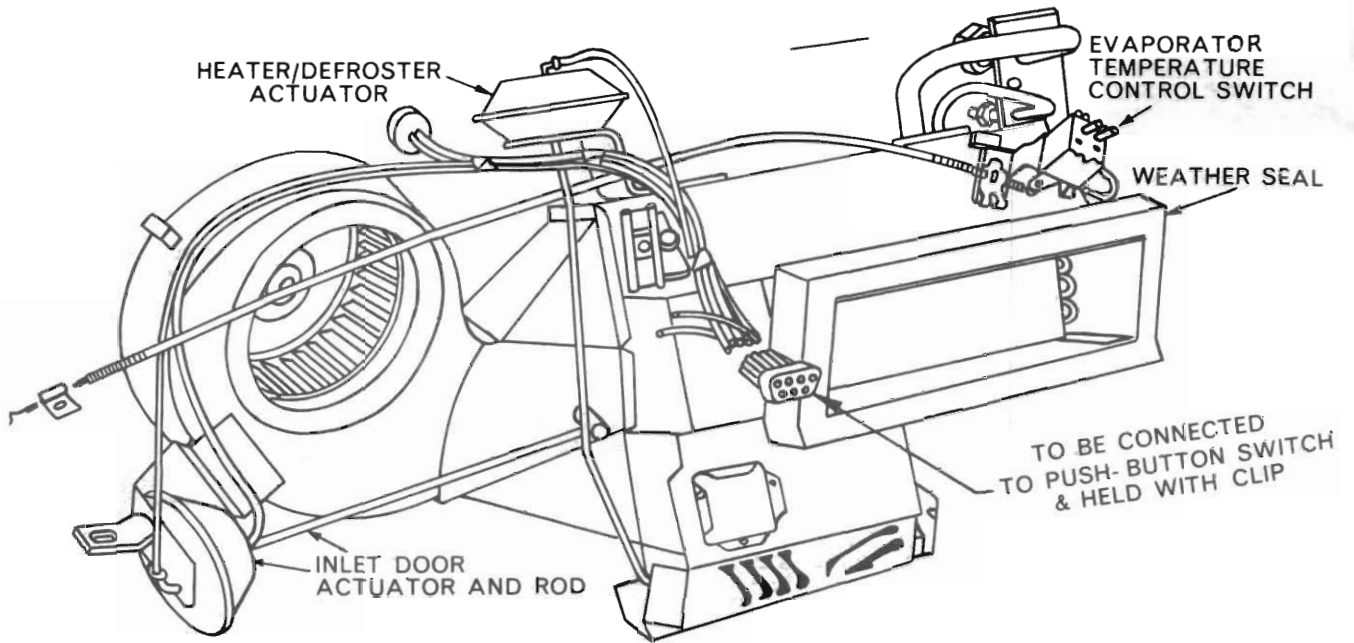
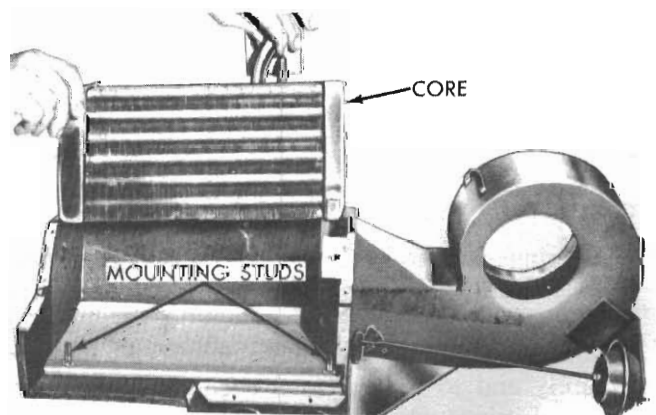
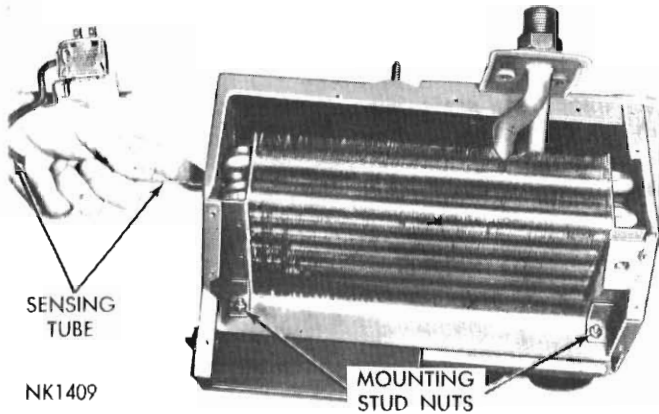

Fig. 33 - Evaporator assembly (heater unit removed)
Fig. 34 - Removing evaporator core (typical view)
Fig. 35 - Installing capillary sensing tube (typical view)
(1) Disconnect elbow assembly and suction lines from evaporator. Use two wrenches to loosen each of these connections. Cap all the refrigerant openings to prevent entrance of dirt and moisture.
(2) Disconnect blower motor wires and air tube and remove the blower motor from housing.
(3) Disconnect actuator hose.
(4) Remove mounting stud nuts and remove evaporator assembly as a unit (*Fig. 33*).
(5) Remove evaporator temperature control switch, and carefully withdraw the capillary sensing tube (*Fig. 35*). Remove the weather seal around the air outlet opening, and remove the attaching cover screws and cover. Remove the attaching stud nuts and remove adaptor from case (*Fig. 34*).
(1) Position evaporator in the case and secure with attaching stud nuts.
(2) Place a small bead of sealer on case flange, install case cover and secure the attaching screws. Remove any excess sealer.
(3) Carefully install capillary sensing tube through the case into the evaporator to the full depth (Fig. 35). Position evaporator temperature control switch and secure with attaching screws (Fig. 33).
(4) Install and cement the weather seal around air outlet opening.
(5) Position evaporator assembly on the dash panel and install the stud nuts that attach the assembly to dash panel and install the drain tube.
(6) Install blower motor wires and air tube and vacuum line.
(7) Use new 'O' rings with clean refrigerant oil on all connections, install the inlet elbow assembly and suction line. Use two wrenches to prevent rotation and twisting of the lines.
(8) Install actuator hoses (hose with red strip to rod side).
(9) Install heater as described in "Heater Core", Para. 13.
(10) After the evaporator (and heater) assemblies are installed in the vehicle, it will be necessary to sweep the system, test for leaks and charge the system with the proper amount of refrigerant, (as described in Page 24 - 26, Tests 1 to 6). It is recommended that the operation of all controls be tested and an overall performance test be made after the repair or replacement of the evaporator assembly.